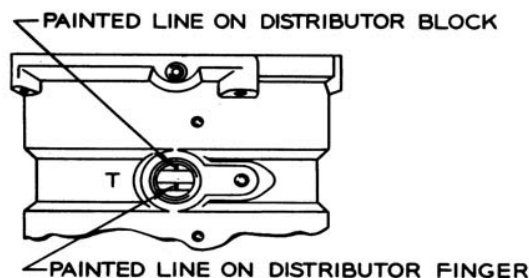

Figure 5-2. Alignment of Lines as Seen Through "T" Opening
- (f) Insert a small screwdriver through the "T" marked opening and engage the painted rotor timing groove. (The painted lines on the distributor block and finger will be found in approximate alignment.) See Figure 5-2. With a light force depress the screwdriver, moving the rotor in a counterclockwise direction as viewed from the rear, sufficiently to remove any backlash. At the same time rotate the magneto in its mounting flange until the timing light comes on, then slowly turn it in the opposite direction until the light goes out. Bring the magneto back slowly until the light just comes on and tighten the mounting clamps. Repeat this procedure with the second magneto.